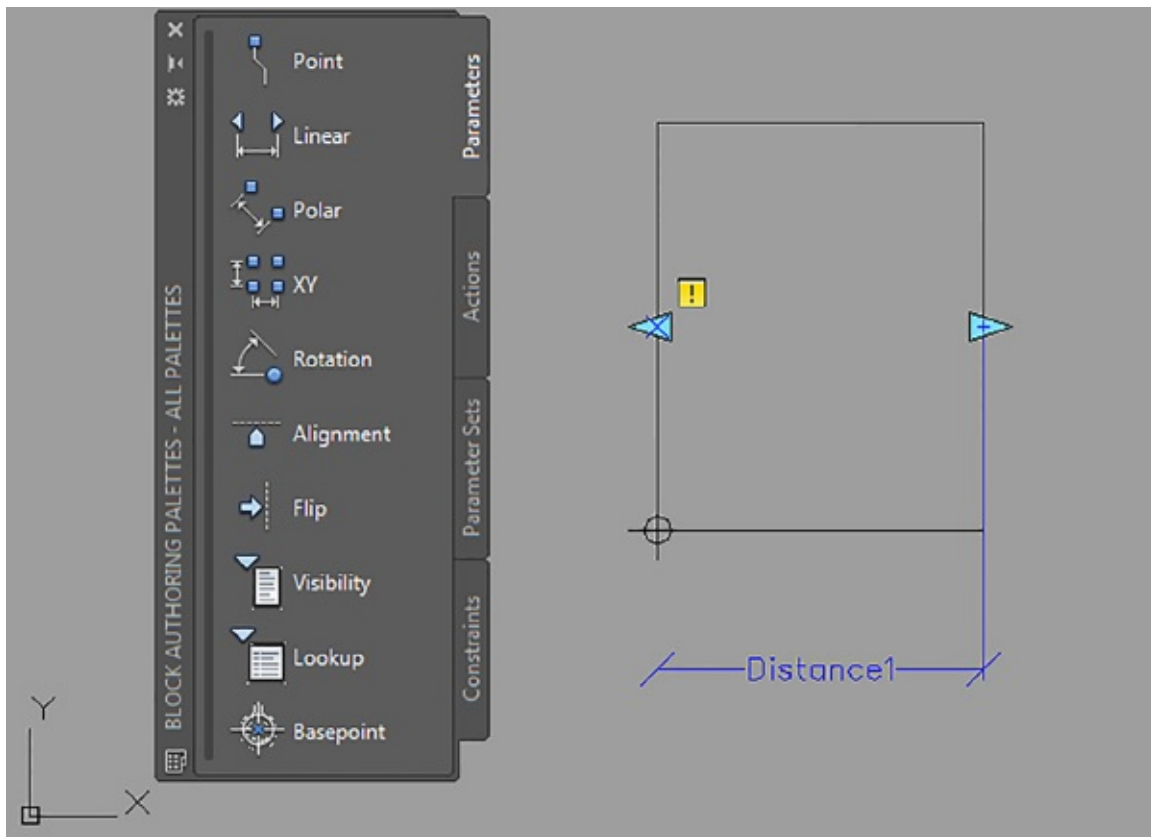

FIGURE 17.6 Placing the Linear parameter
4. At the Specify label location: prompt, the parameter name appears with the parameter label at the cursor. Click below the rectangle to place the label, as shown in Figure 17.6.